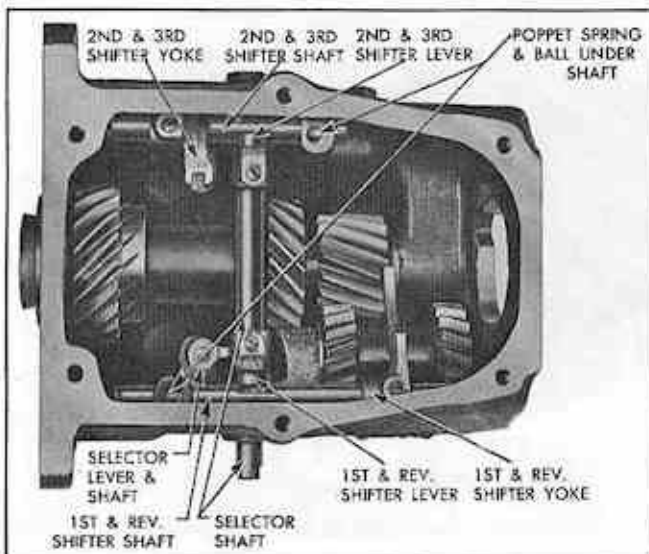

Fig. 25 Transmission Shift Mechanism
10. Place transmission levers in neutral and remove set screws holding shifter yokes and shifter levers to their respective shafts (Fig. 25).
11. Push second and third shifter shaft out through front of transmission case, taking care to prevent poppet ball and spring from flying out (See Fig. 25). Remove shifter yoke, ball and spring.
13. Taking care to prevent poppet ball and spring from flying out, push low and reverse shifter shaft out through rear of transmission case (See Fig. 25). Remove shifter yoke, poppet ball, spring, and low and reverse interlock pin.